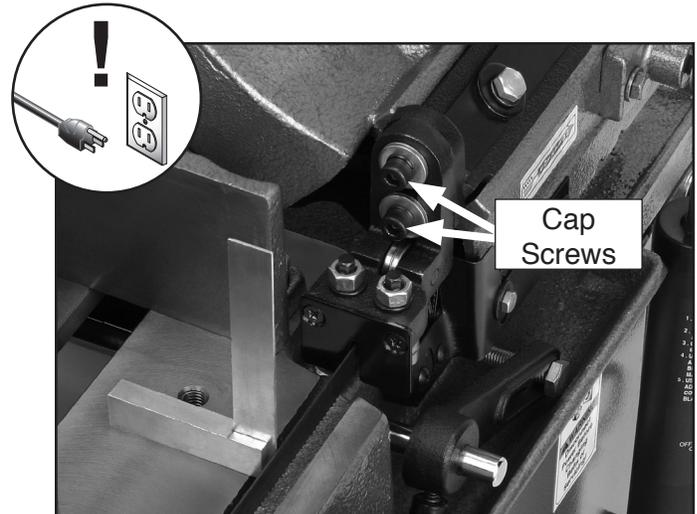

Figure 43. Squaring the blade.
3. Place a square on the table bed and against the edge of the blade (**Figure 43**), and check different points along the length of the table between the blade guides.
4. Loosen the cap screws shown in **Figure 43**, and rotate the blade guide until the blade is vertical to the bed, then tighten the cap screws.